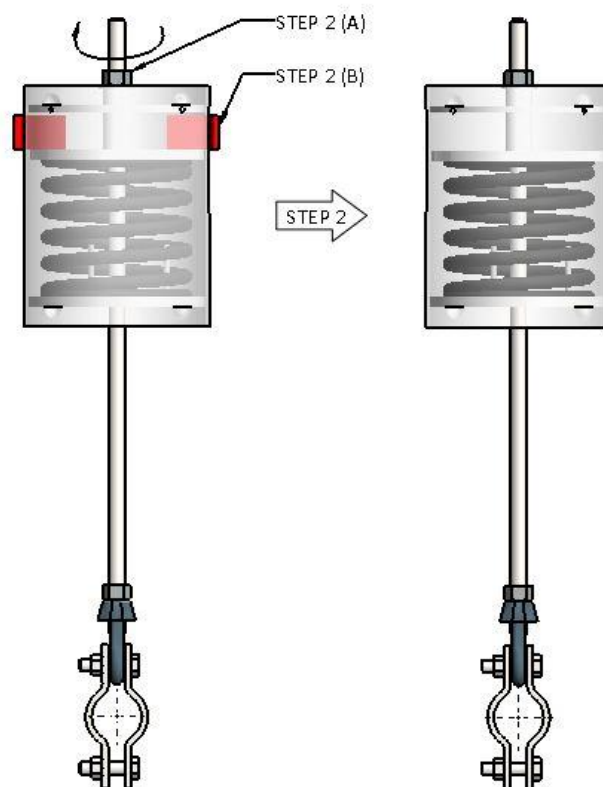

Figure 5.3 – Type D: View with Pre-Set Stops installed.
-)] Type D Springs (Figure 5.3), transfer load from pipe to spring support by rotating the nut above the load tube in a Right to Left action, STEP 2(A). Then remove Pre-set stops by hand, STEP 2(B).